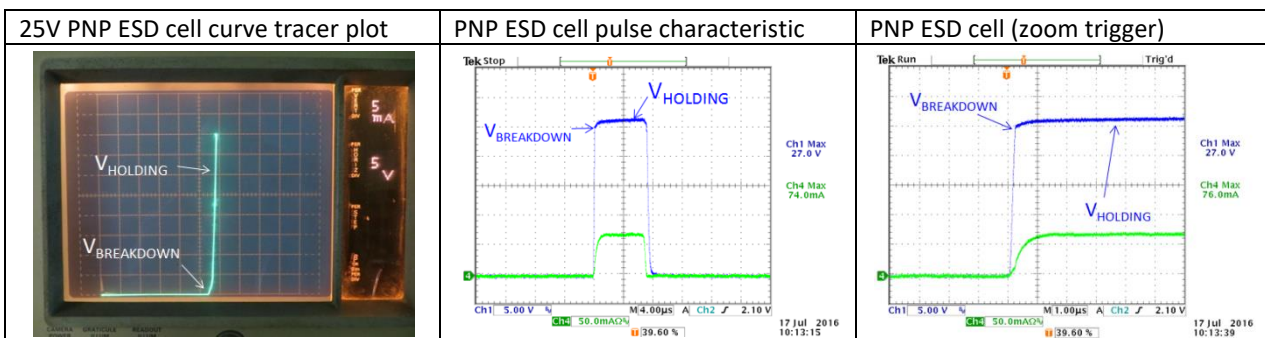

FIGURE 13
- PNP type ESD cells will clamp the voltage at a relatively fixed peak voltage at the breakdown point. They behave more or less like zener diodes. These types are most often used for input protection of DC-DC converters. See Figure 13.